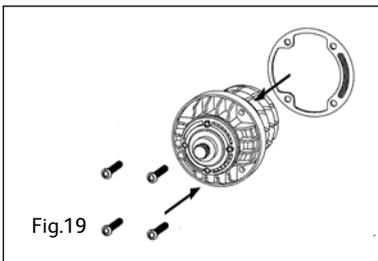

Fig.19
12. Push the four cartridge fixing screws through the face of the cartridge and attach the gasket to the screws ensuring that it is correctly positioned (Fig 19).